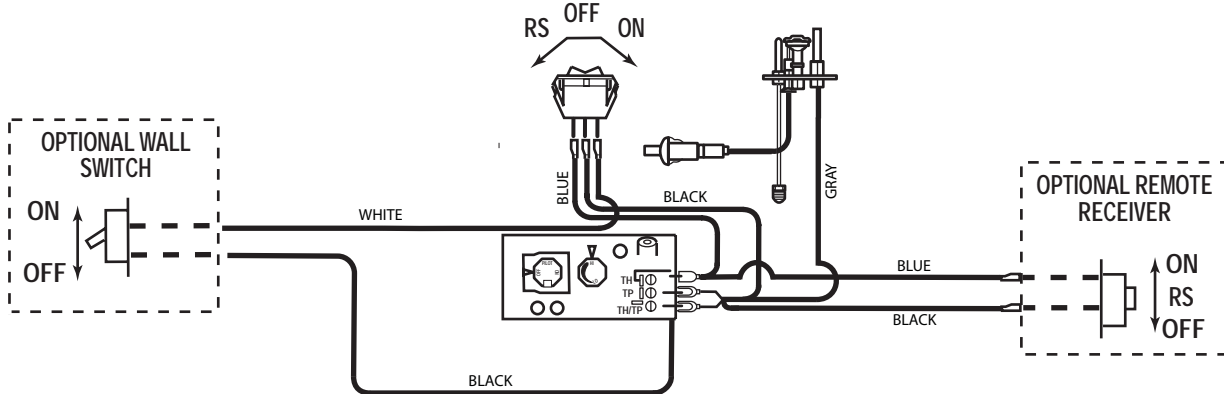

Figure 42 - Wiring Diagram for Wall Switch
A remote wall switch and up to fifteen (15) feet of 18 gauge wire may be used with this appliance. Attach the wall switch in a junction box at the desired location on the wall. See Figure 42. Do not extend beyond the wall switch wire length provided.
2. Connect the wire terminal from the remote receiver. This replaces the 15' wall switch connection to the switch. See Figure 42.